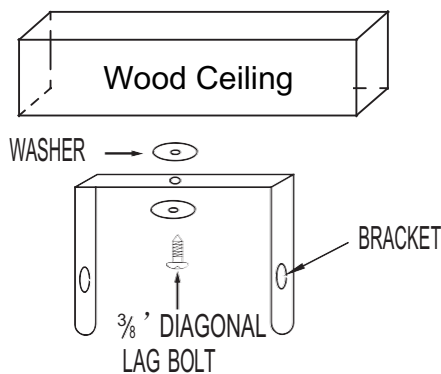
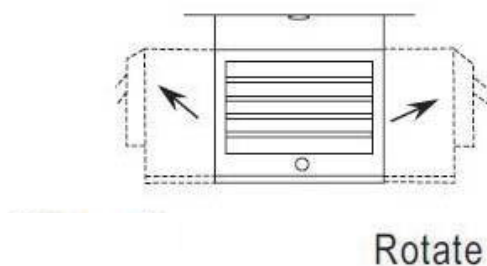

Figure 5a-single-Screw Mounting
Figure 7
Refer to Figures 5a and 5b.
NOTE: If you want to swivel the heater either to the right or left adding a washer to both sides of the bracket is recommended. A longer lag bolt may be required to properly secure the unit. See Figure 5a.
1. To turn the unit when it has been installed with a single lag bolt (as shown in figure 5a), simply turn the entire heater as needed (as shown in figure 7).